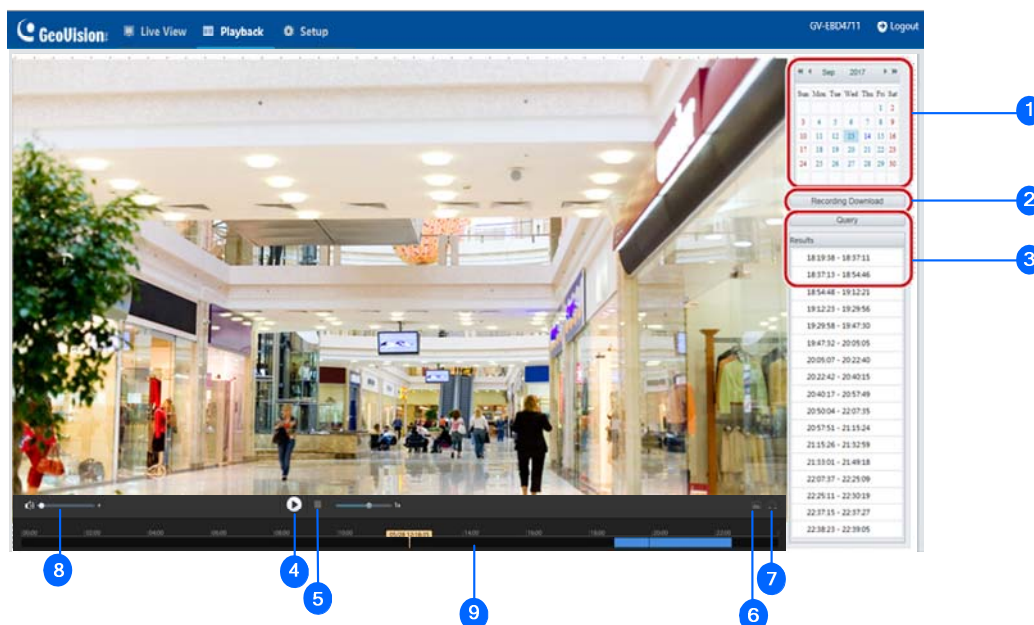

Figure 2-6
1. Click **Recording Download** (No. 2, Figure 2-6) on the right of the Playback window.